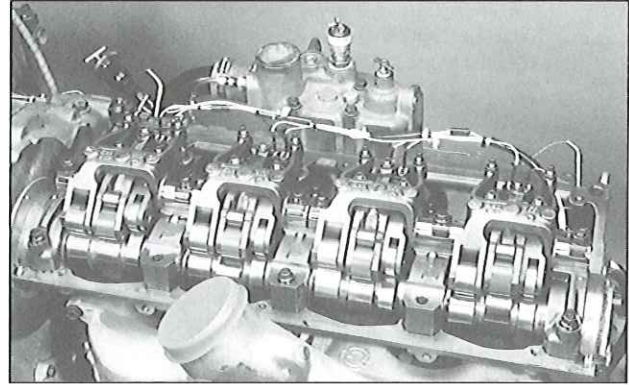

FIG. 14
1. Remove the two bearing cap bolts shown on the intake manifold side, as shown by the arrows in Fig. 14.